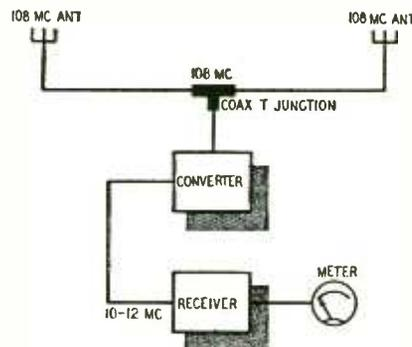
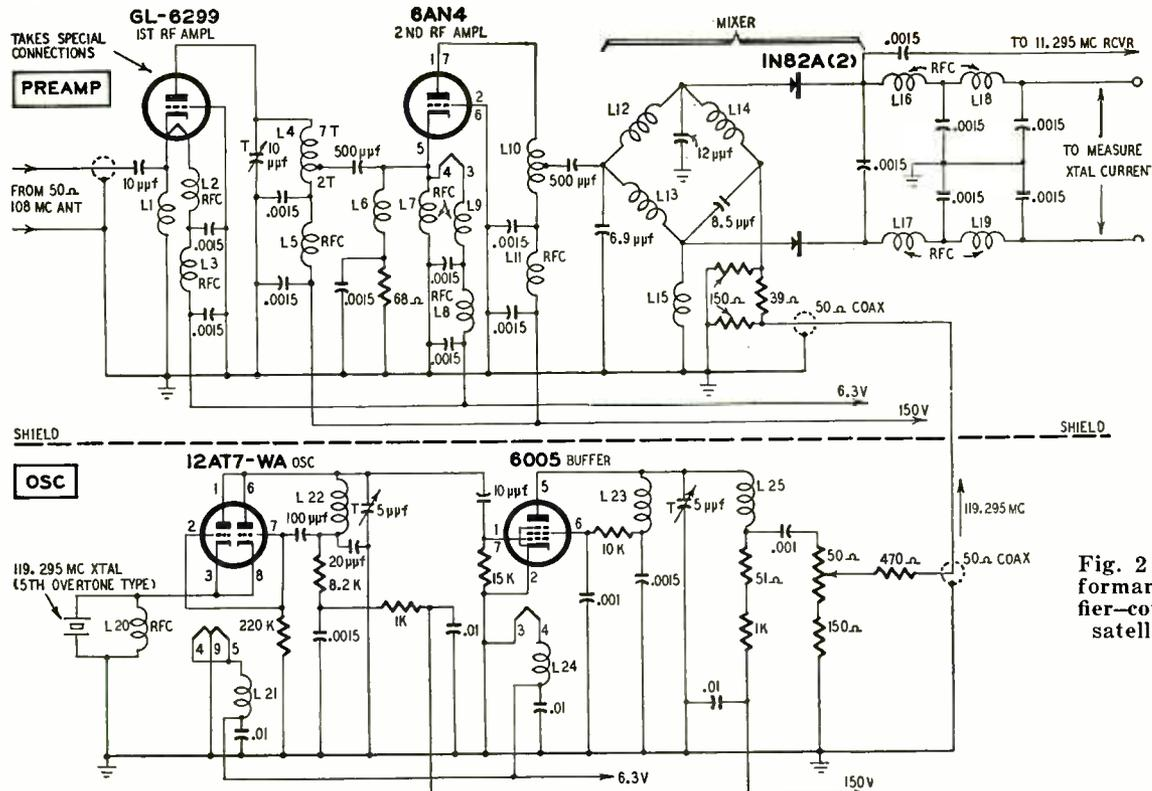
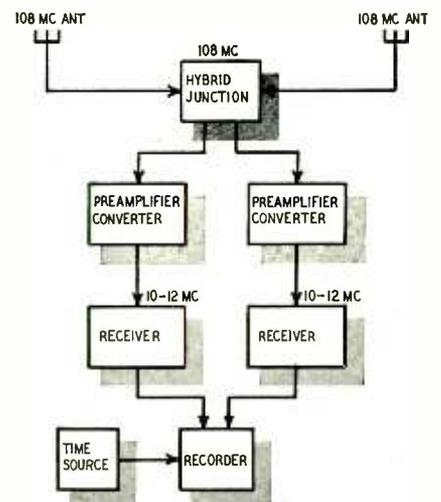

Fig. 1—Simple system for tracking satellite launched by United States.
Fig. 2 — High-performance preamplifier-converter for satellite tracking.
Fig. 3—An improved satellite tracking system.
In its simplest form (Fig. 1), the system requires (1) a set of two identical Yagi antennas on a single base line from 20 to 500 feet long, (2) a coaxial T junction centrally located on the antenna base line, (3) a frequency converter to shift the incoming 108-mc signal to a lower frequency acceptable to a standard type of communications receiver, and (4) an S-meter or visual recording device connected to the output of the standard receiver. The two Yagi antennas should have the same shape and spacing of elements, and should be mounted parallel to each other. The antenna base line should be as long as possible—preferably running in a somewhat east-west direction. A number of economical, commercial frequency converters will probably be on the market soon. But a conventional overtone crystal oscillator with a buffer amplifier can be used to convert the satellite signal to a clear frequency acceptable to the range of your communications receiver. Amateur receivers and converters intended for the 144-mc band may also be modified for the lower frequency. The really ambitious constructor may wish to try the preamp-converter shown in Fig. 2. It was designed especially for the purpose of satellite tracking by the Naval Research Laboratory. The tubes are expensive—the GL-6299 lists at \$56—and the layout and construction requires considerable experience with vhf circuitry. (Construction details and design data on the equipment may be found in the article "A Low-Noise Preamplifier for Satellite Tracking" in the December, 1956, issue of *QST* magazine.)
A diagram of this improved tracking system, also developed by the Naval Research Laboratory, is shown in Fig. 3. A hybrid junction can be constructed to match the impedances of the two antennas with the inputs of the two preamplifier-converters. Suitable types of low-noise preamplifier-converters will soon be available commercially, but can be assembled around two grounded-grid amplifier tubes feeding a balanced mixer with a separate local oscillator. (See Fig. 2.) Outputs from the two standard communication receivers can be connected in parallel to any of several kinds of permanent visual recorders. Most desirable is the direct-writing type with a frequency response up to about 30 cycles. Galvanometer type photographic recorders may also be used. Paper speed for recorders should be at least 3 inches per second.